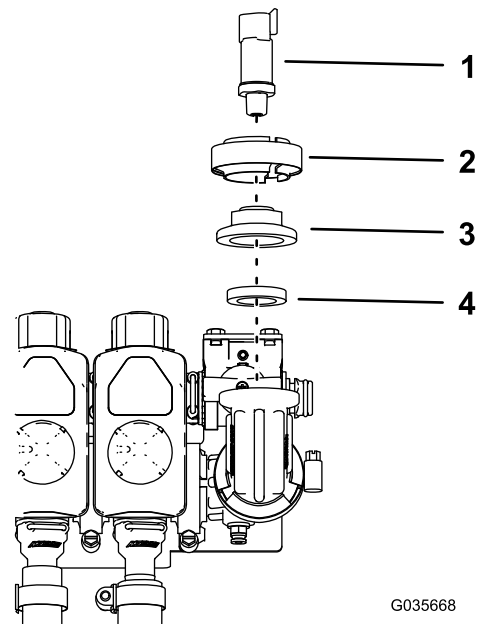

Figure 2
7. Install the flange gasket, cap fitting, and pressure transducer, securing them using the transducer clamp that you just removed (Figure 2).